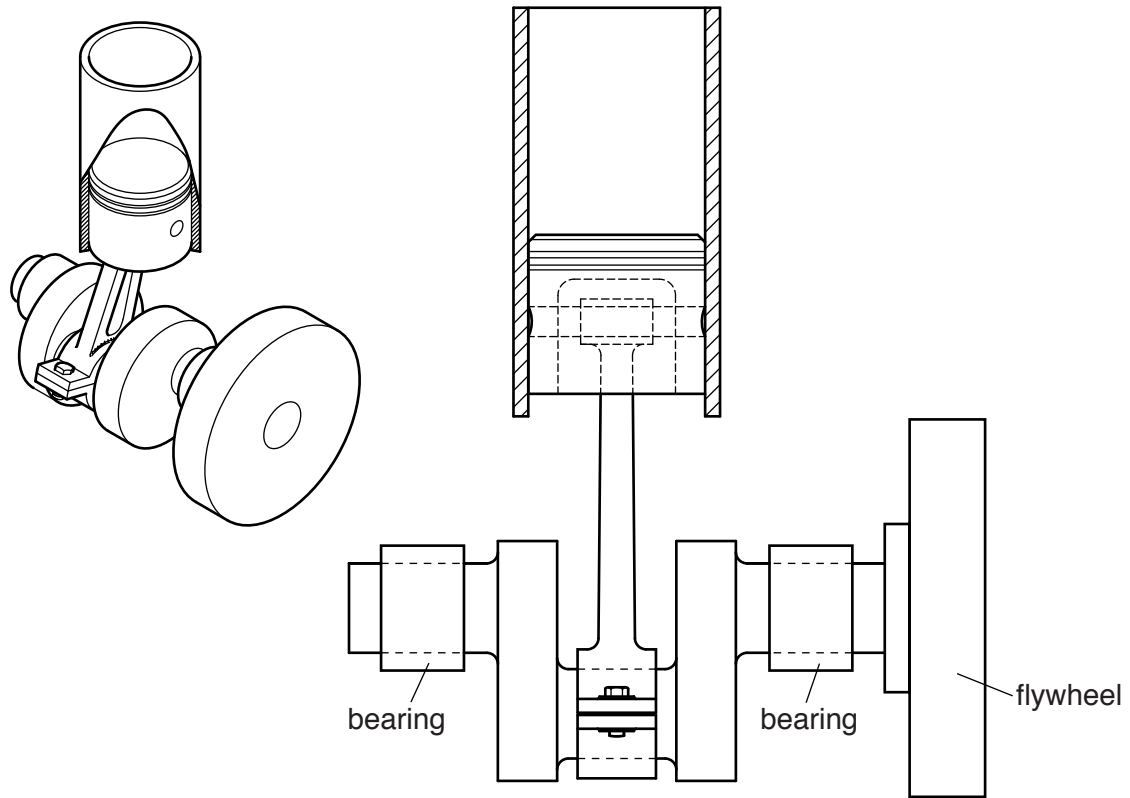

Fig. 11
(d) Fig. 11 shows the main parts of a single cylinder internal combustion engine.
- (i) Indicate on Fig. 11 the following parts:
- (iii) Draw on Fig. 11 to show **two** places where lubrication would be required. [2]